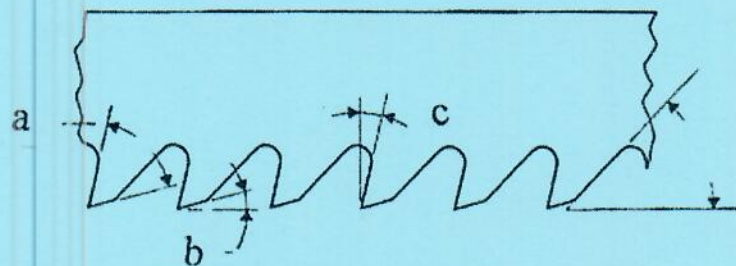

Figure 3. Angles of cutting teeth of a power saw blade.
- a) Figure 3 shows the teeth of a heavy duty power saw blade.